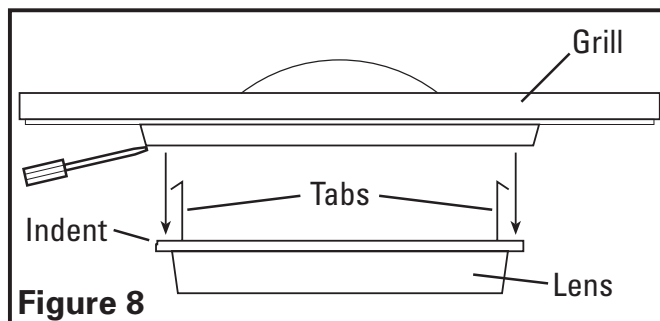

Figure 8
2. Remove the glass light lens from the grill by pulling downward on the lens. It is held in place with hidden tabs on either side of the lens. It might be necessary to carefully insert a putty knife or screwdriver into one of the indentations around the light lens to help release the lens from the grill (Figure 8).